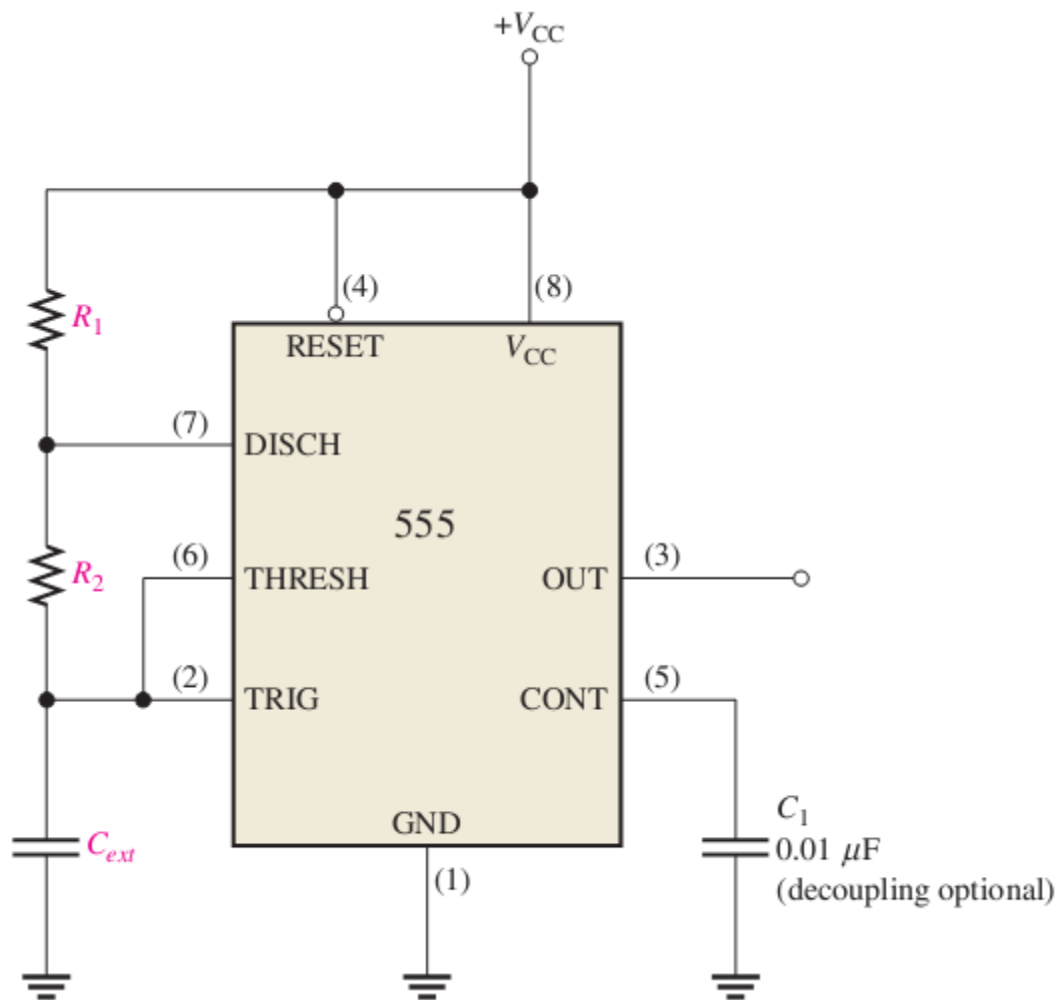

Figure 30 The 555 timer connected as an astable multivibrator.
- A 555 timer connected to operate in the astable mode as a free-running relaxation oscillator (astable multivibrator) is shown in Figure 30.